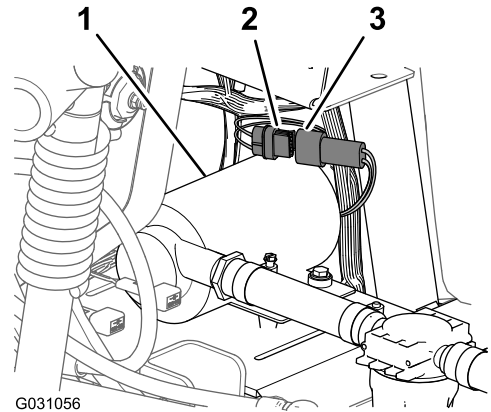

Figure 186
1. Connect the 6-pin connector of the rinse-pump harness from the 6-socket connector of the rear main harness (Figure 186).